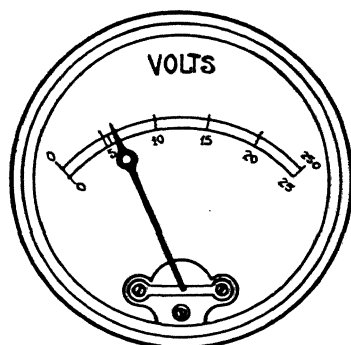

Fig. 2. The Voltmeter
**Testing Analyzer Battery.** Check the battery on the analyzer to see that it is always 6 volts or more. This test should be made with the coil connected. This puts a 4-ampere load on the battery and under this condition it should read not less than 6 volts. If in good condition and properly charged, the reading on the voltmeter, Fig. 2, should be 6.2 volts.